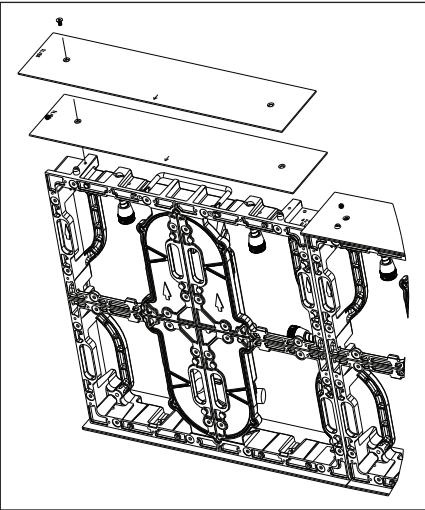
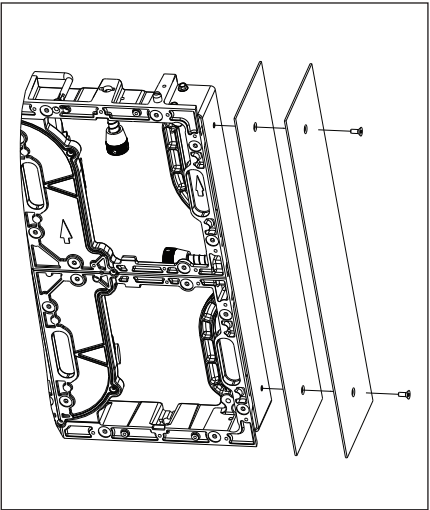
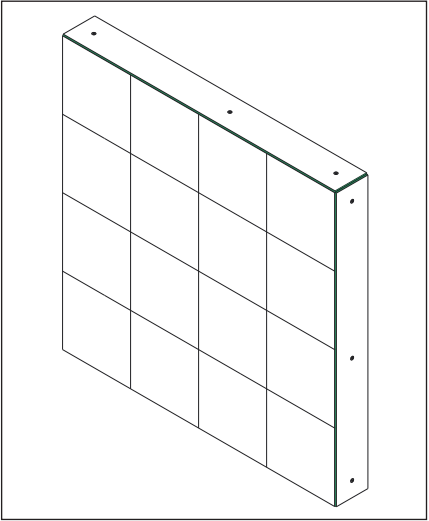

Figure 4: Top/Bottom Border Spacer & Border
Figure 5: Side Border Spacer & Border
Figure 7: Fasten Border to Panel
5. Bring the border spacer and border into position: the arrows on both pointing toward the face of the display, the rectangular cutout on the border spacer oriented so it is closer to the face of the display than to the slot, and the side alignment tab sitting in the rectangular cutout. The border countersinks are centered about the border display depth and can be oriented any direction. Ensure the countersink is exposed for installation. Refer to **Figure 4** and **Figure 5**.
7. Use two M5-0.8 x 10 mm flat-head screws (HC-4090079) for top/bottom borders or two #10-24 x 0.500" flat-head socket drive screws (HC-1484) for side borders to fasten the border to the panels in all pre-punched countersink hole locations on the borders. Refer to **Figure 4** and **Figure 5**. Each panel has threaded holes for borders on all four sides. Refer to **Figure 7** for the finished appearance.